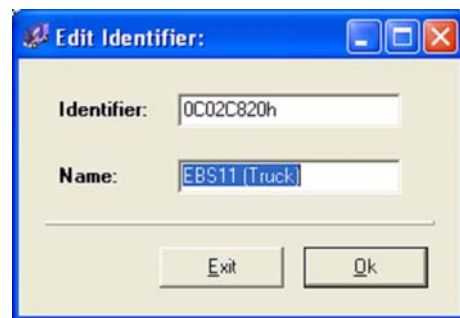

Fig. 6 Dialog for editing an identifier
- In this dialog, enter the ID and any name you choose (see fig. 6).